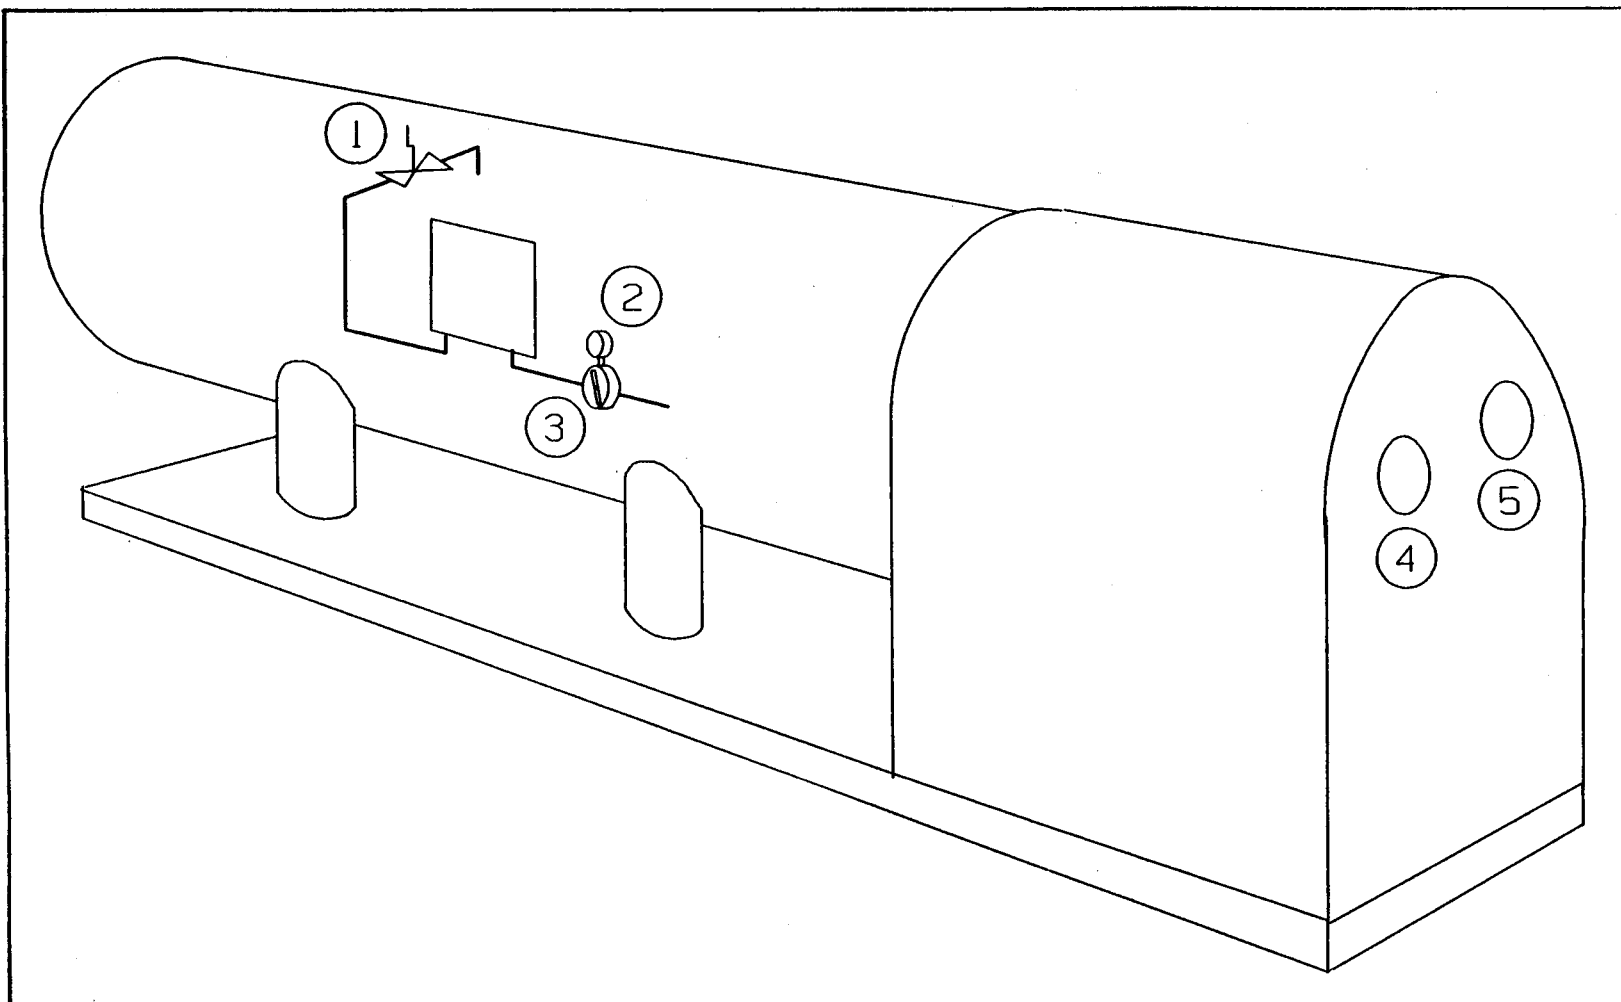

Fig. 14. Supercritical fluid CO₂ supply tank.
7. Open CO₂ tank valve [1] (Fig. 14).
8. Set CO₂ supply regulator [3] (Fig. 14) to 30 psi. Check pressure gauge at compressor for 30 psi.
16. Reset the CO₂ supply regulator [3] (Fig. 14) to the required operating pressure, not to exceed 150 psi.
- b. Reset the CO₂ supply regulator [3] (Fig. 14) to 30 psi.
- f. Close the CO₂ tank valve [1] (Fig. 14).
- g. When CO₂ tank pressure reaches 0 psi at the compressor, reset the CO₂ supply regulator [3] (Fig. 14) to the fully open position.
4. Shut off the flow of CO₂ at the CO₂ tank ([1], Fig. 14).
5. Back off on the CO₂ pressure regulator ([3], Fig.14).